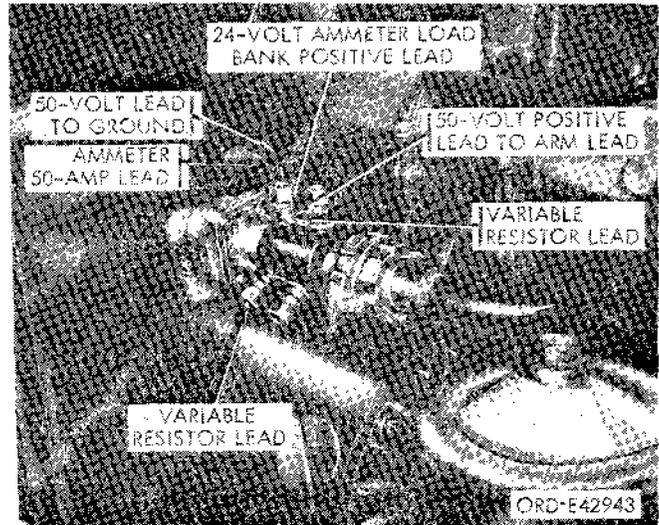

Figure 2-19. Generator output test hookup.
g. Connect the ammeter positive (+) lead to the load bank side of the ammeter, 24-VOLTS, 10-80A, and connect the other end to the armature lead of the generator as shown in figure 2-19.
h. Connect the ammeter negative (-) lead to the meter side (fig. 2-8), 50 AMP. and connect the other end to the vehicle generator ground or battery ground (fig. 2-19).
i. Connect the positive (+) lead of the voltmeter (fig. 2-8) to the positive (+) side of the meter connection and other end to the armature side of the generator (fig. 2-19).
m. With the meters connected as in figure 2-19, and the variable resistor and LOAD BANK SWITCH in the OFF position, start the engine and set it to run at a high idle (1000 to 1200 rpm).
regulator for defective wire (fig. 2-19). Repair as required.